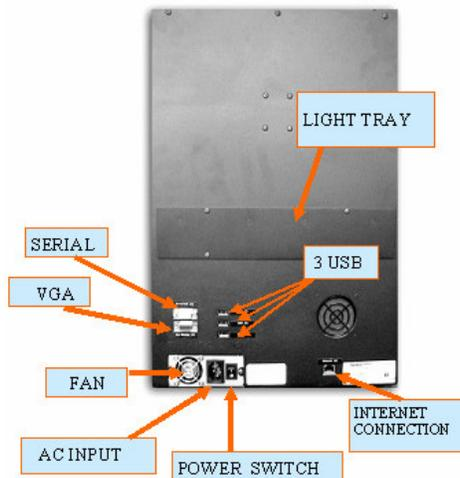

Figure 1: Rear View of the INTEGRA* 9500
Unpack the mouse and connect it to any one of the three USB ports located on the back of the system (see Figure 1).
- Unpack the AC cord and plug it into the AC INPUT located on the back of the system (see Figure 1).
- Turn the power switch located on the back of the INTEGRA* 9500 to the ON position (see Figure 1).